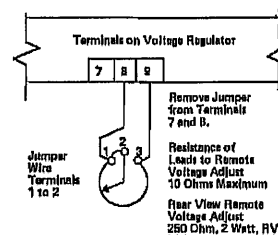

FIGURE 1B. REMOTE VOLTAGE ADJUST CONNECTION
- In applications where external remote voltage adjust option is provided; remove jumper from terminals 7 and 8 and connect the remote voltage adjust as shown in figure 1B. Make certain jumper wire is installed across rheostat terminals 1 and 2.